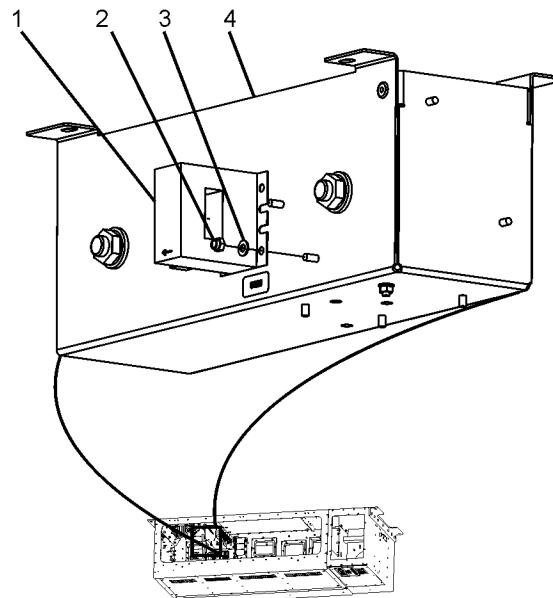

Figure 5-34: U326 Anchor Points
6. Detach U326 (see Figure 5-34). U326 (1) is mounted to the back side of the C301 assembly (4) at two anchor points and is held in place with four M4 locking nut (2), and M4 flat washer (3) sets. Remove these fasteners to detach U326.
2. Insert U326 (see Figure 5-34). Insert current sensor oriented with the plug facing the rear of the unit. An arrow is engraved on the top of the sensor. This should be facing the rear of the unit. The sensor should seat upon two diagonally located anchor points.
3. Attach U326 (see Figure 5-34). U326 (1) is mounted to the back side of the C301 assembly (4) at two anchor points and is held in place with four M4 locking nut (2), and M4 flat washer (3) sets. Tighten the nuts to fit.